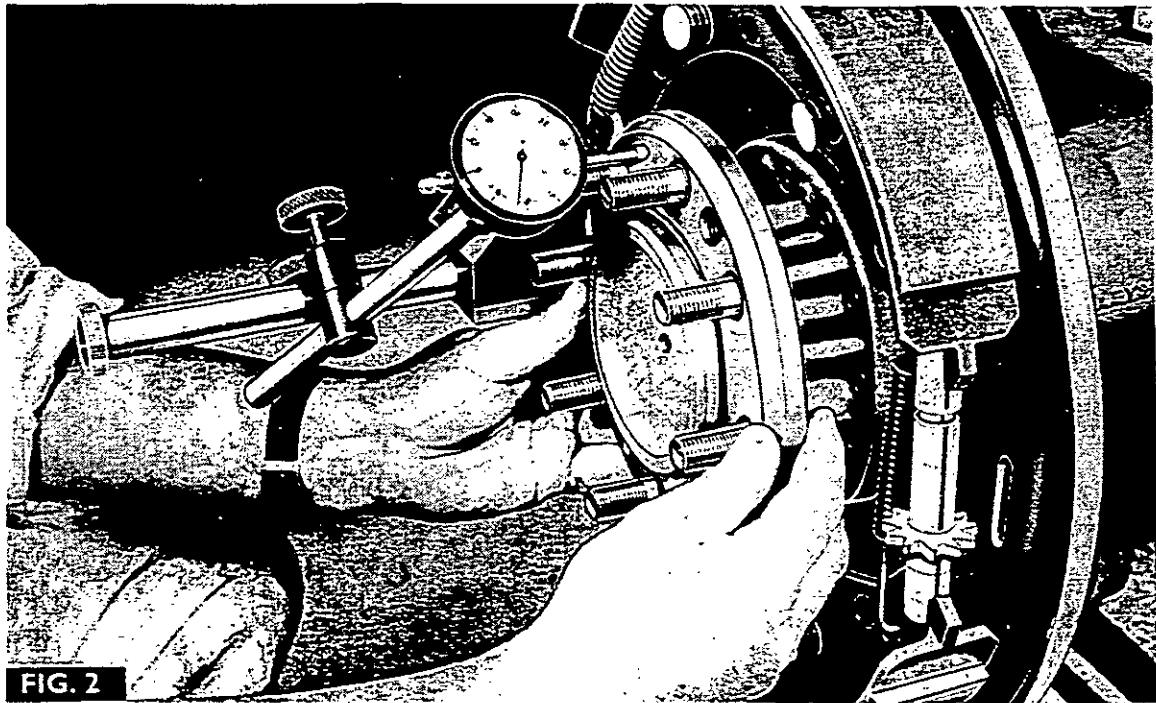

FIG. 2
1. Place the brake assembly (1) and more shims (10) than will be necessary on the axle shaft, then taking care not to damage the oil seal (9), place the axle shaft in the trumpet housing, simultaneously locating the brake camshaft, and secure with three of the nuts (11) and spring washers, equi-spaced and tightened to a torque of 7,0 kg-m (55 lb-ft).
2. Fig. 2. Check the axle shaft end float, using the dial indicator MF 278 as shown. Remove shims as necessary to give an end float of 0,05 to 0,2 mm (0.002 to 0.008 in).
3. Refit the remaining nuts (11) and spring washers and tighten to a torque of 7,0 kg-m (55 lb-ft).
5. Refit the brake drum (2) and secure it with the two screws (3).
1. Place the back plate and more shims (10) than will be necessary on the axle shaft, then taking care not to damage the oil seal (9) place the axle shaft in the trumpet housing and secure with three of the nuts (11) and spring washers, equi-spaced and tightened to a torque of 7,0 kg-m (55 lb-ft).